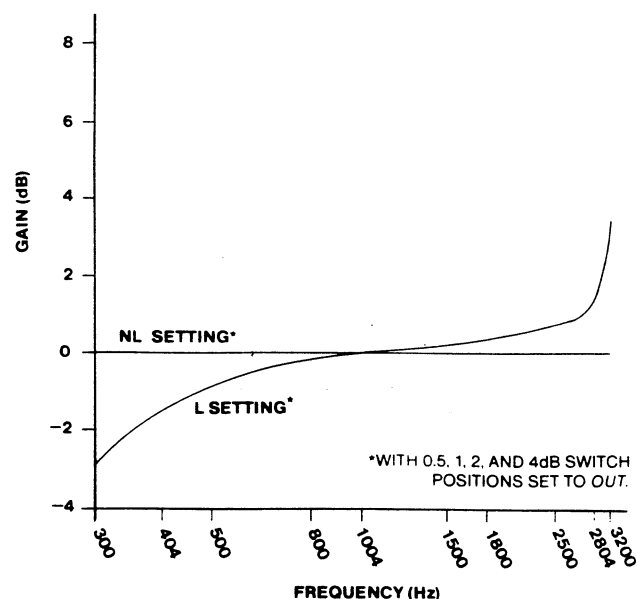

figure 6. Typical compromise bump equalization response curves
**2.09** The second mode of receive-channel equalization available on the 6124/A is compromise bump-type equalization for loaded cable. The bump equalizer inserts a 3dB bump at 3200Hz (re 1004Hz) and provides 1.5dB of roll-off at 404Hz (re 1004Hz). Typical frequency response of the compromise bump equalizer is shown in graphic form in figure 6 and in tabular form in table 2.